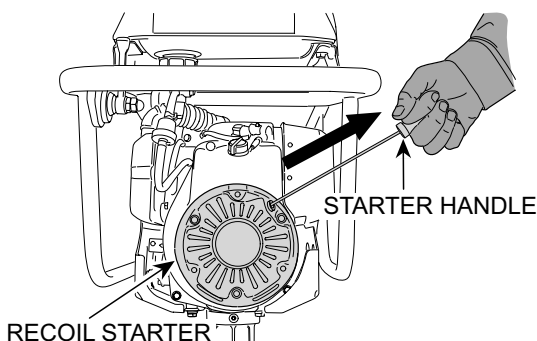

Figure 17. Recoil Starter
5. Grip the recoil starter (Figure 17) handle and pull it until you feel a slight resistance. Then pull sharply and quickly. Return the recoil starter handle to the starter position before releasing.